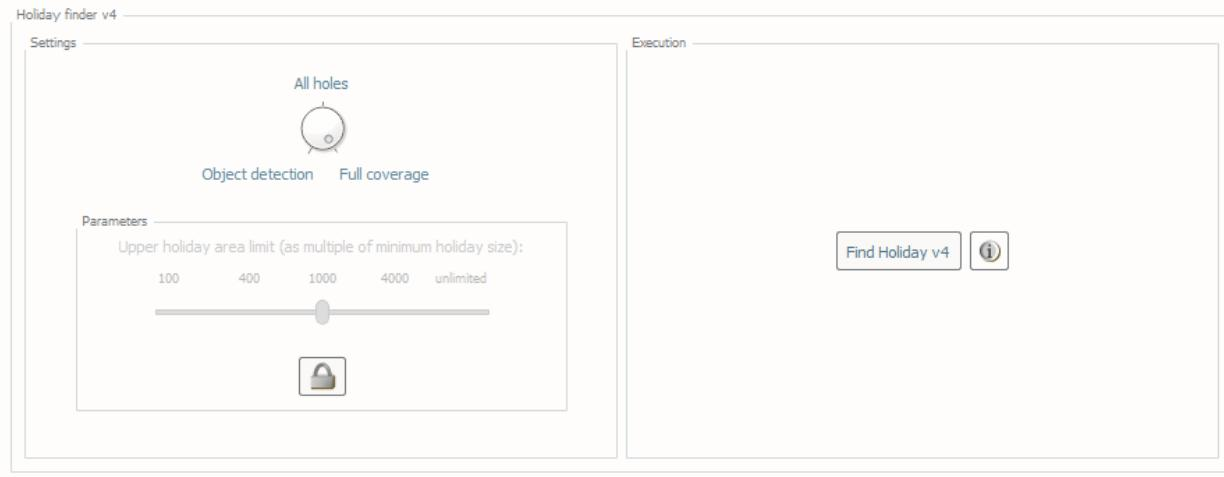

Fig. 2.17: The **Detect holidays** tab.
- Select the **Detect holidays** tab (Fig. 2.17) on the bottom of the QC Tools interface.